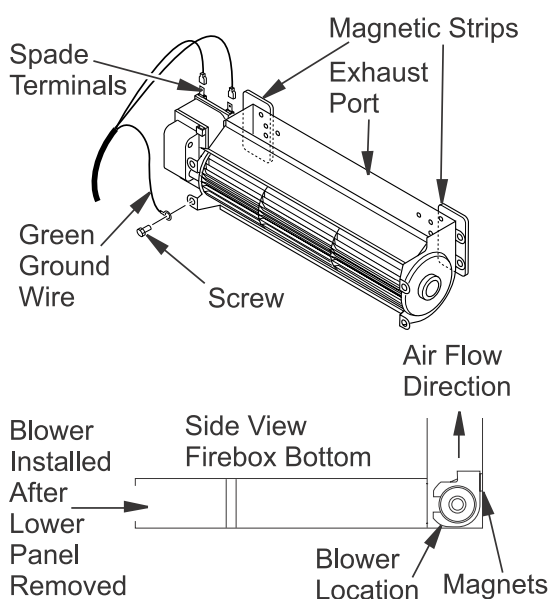

Figure 13 - Blower Model BK
1. Attach the power cord to blower motor by firmly pushing two female terminals at end of power cord onto two spade terminals on blower motor (see Figure 13).
2. Attach green ground wire from power cord to blower housing using screw provided (see Figure 13). Tighten screws securely with a phillips screwdriver.
3. Place blower against lower rear wall of firebox outer wrapper with exhaust port directed upward. Depending on your model, you may have to carefully route the blower assembly past controls and brackets and position blower inside back opening. The blower will be held in position against the back wall by magnets incorporated onto blower housing (see Figure 13).